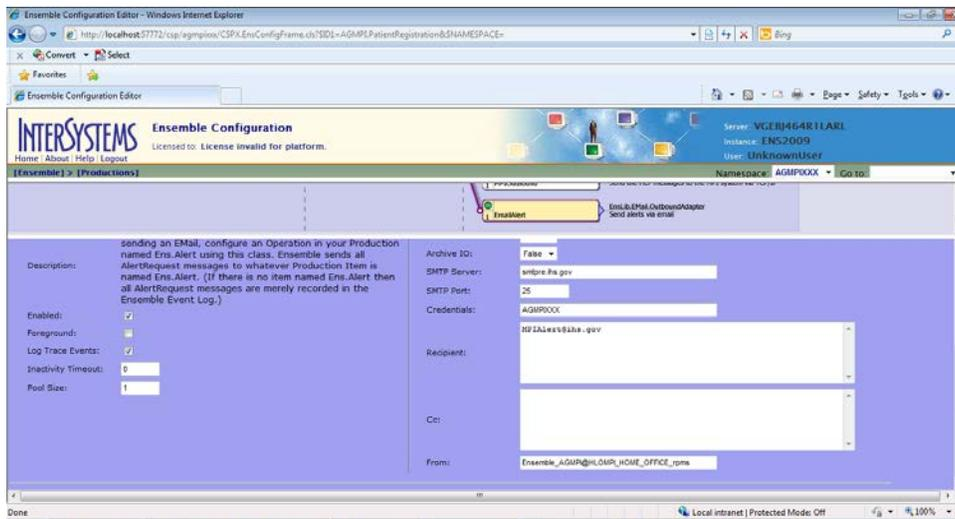

Figure 5-33: **EmailAlert** configuration
- Click **EmailAlert** in the top pane of the **Ensemble Configuration** page to display the EmailAlert configuration settings in the bottom pane, as shown in Figure 5-33.